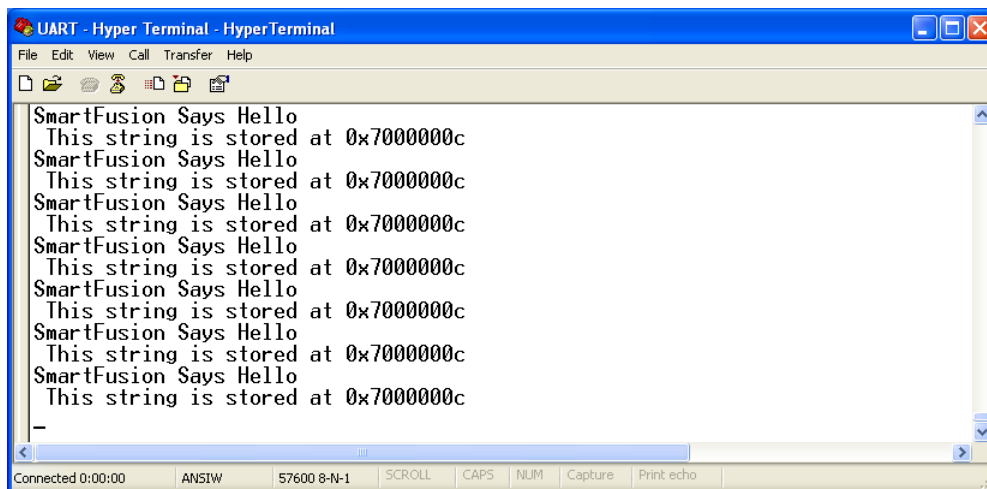

Figure 11 • Screen-shot of HyperTerminal with Memory Location of Global Variable
5. Start HyperTerminal or PuTTY with the baud rate set to 57600, 8 bits data, 1 stop bit, no parity, and no flow control. The application starts printing the memory location of global variable on the HyperTerminal. Figure 11 shows the screen shot of HyperTerminal with the memory location of global variable.